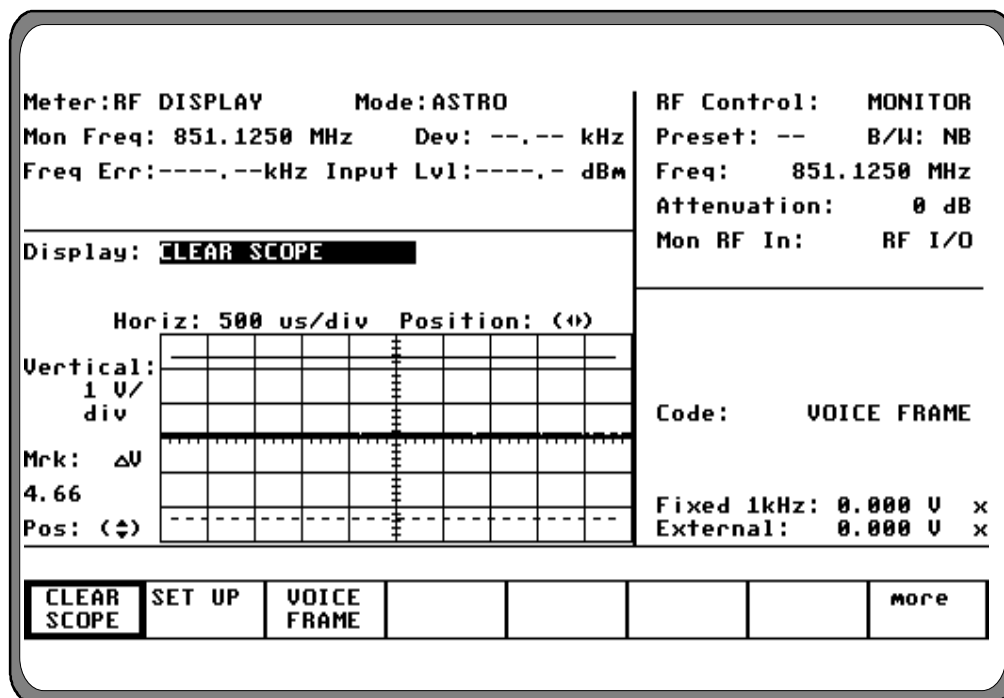

Figure 18-5. ASTRO CLEAR SCOPE Display of Recovered Audio
6. Place cursor in the "Display:" field and press **CLEAR SCOPE** softkey. The CLEAR SCOPE screen should appear similar to figure 18-5.